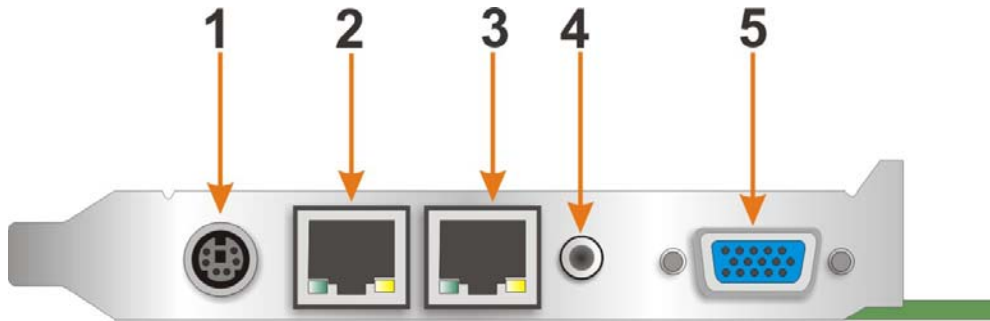

Figure 3-21: ROCKY-3786EV CPU Board Rear Panel
Figure 3-21 shows the ROCKY-3786EV CPU board rear panel. The peripheral connectors on the back panel can be connected to devices externally when the CPU card is installed in a chassis. The peripheral connectors on the rear panel are:
- CN Location: See Figure 3-21 (labeled number 4)
Connect an audio device to the line out connector on the rear panel **Figure 3-21** (labeled number 4).
- CN Location: See Figure 3-21 (labeled number 2)
CN Location:	See Figure 3-21 (labeled number 3)
- CN Location: See Figure 3-21 (labeled number 1)
CN Location: See Figure 3-21 (labeled number 5)